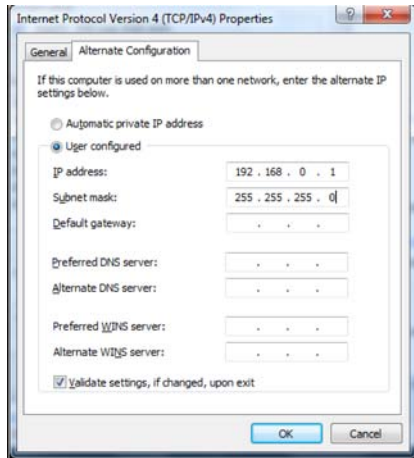

Fig. 17 Internet Protocol Version 4 (TCP/IPv4) - User configured IP address
- ➡ 6. Now you can enter a user defined IP address for your PC. Please take care that the network part of the address has to be identical with the network part of the IP address of the thermoIMAGER TIM NetPC, thus 192.168.0. For the host part you have to use an address which is different from the one of the thermoIMAGER TIM NetPC (100), so you may use 1 for example, see Fig. 17.